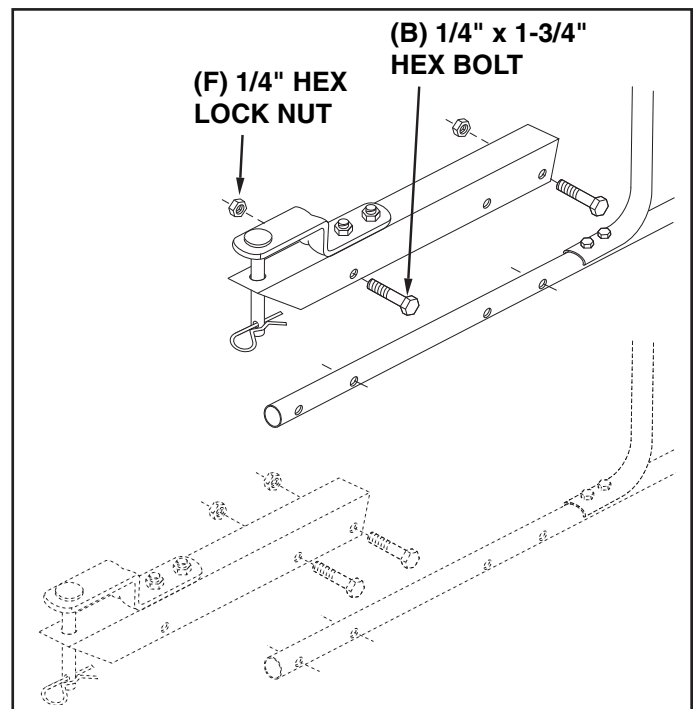

FIGURE 14
- For most vehicles, assemble the hitch extension bracket to the holes in the hitch tube shown at the **top** of figure 14. Use two 1/4" x 1-3/4" hex bolts (B) and 1/4" hex lock nuts (F) tightened only finger tight. Attach the spreader hitch to your vehicle hitch. Check for interference with the spreader directly behind and out to both sides of the vehicle. Lift the spreader at each position to make sure there is no interference with the spreader's flow control. If there is interference with the rear of the vehicle, assemble the hitch extension bracket as shown at the **bottom** of figure 14. **Tighten** the bolts and nuts when finished.